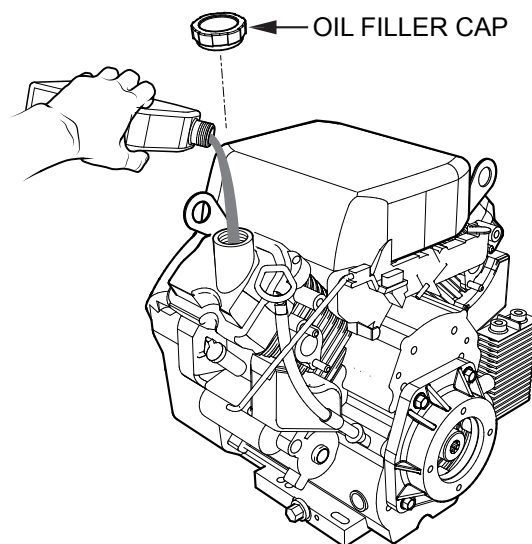

Figure 10. Engine Oil Filler Port
4. If the oil level is low, remove the oil filler cap (Figure 10) and fill to the safe operating level (max) as indicated by the dipstick. Fill with recommended type oil as listed in Table 4. Maximum oil capacity is 1.9 quarts (1.8 liters).